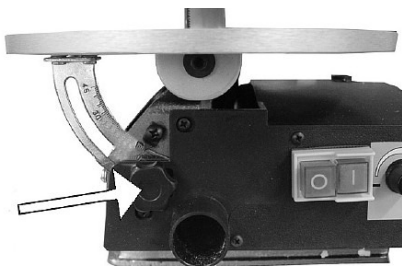

Fig. 8: Tilt the saw table
Step 1: Loosen the clamping screw (Fig.8).